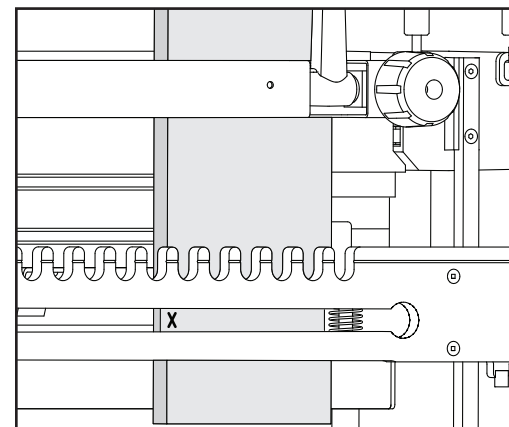

Fig. H18
6. Mark the left side of the dado with an "X" as shown in Fig H18. This will identify the entry point for the tenon board during assembly.